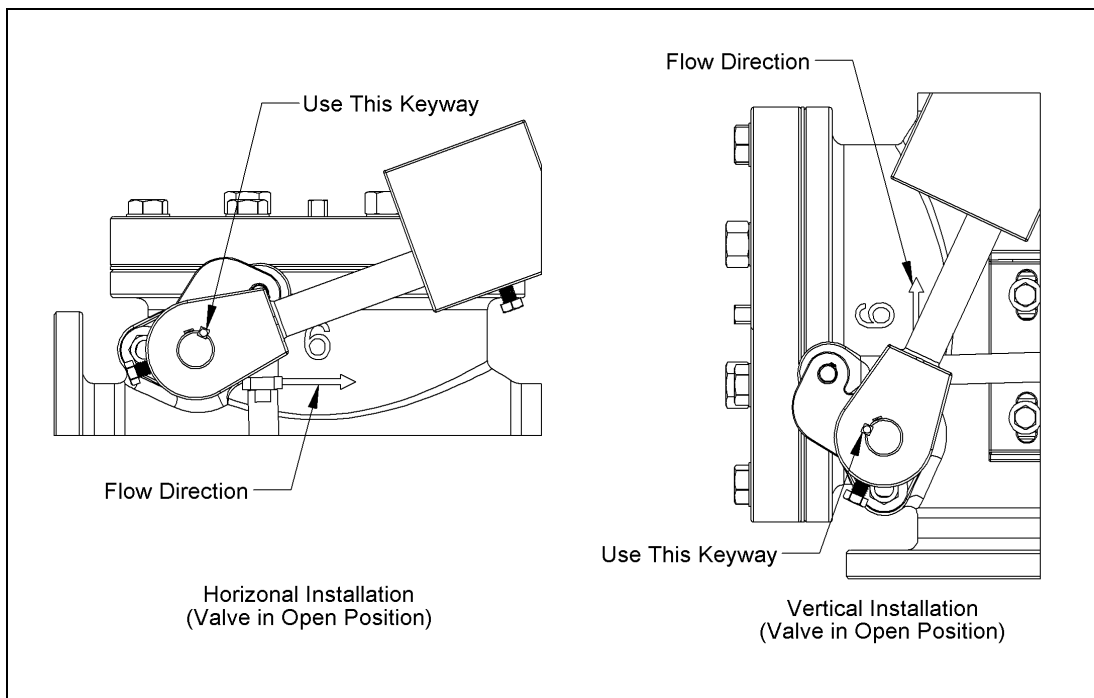

Figure 1 – Counter Arm Position
- To change the counterweight arm position, loosen the Setscrew (B55), slide the counterweight arm assembly off the Pivot Shaft (A13), rotate the counterweight arm assembly and slide it back onto the Pivot Shaft (A13) using the appropriate keyway shown in Figure 1. See Figure 2 for component identification.